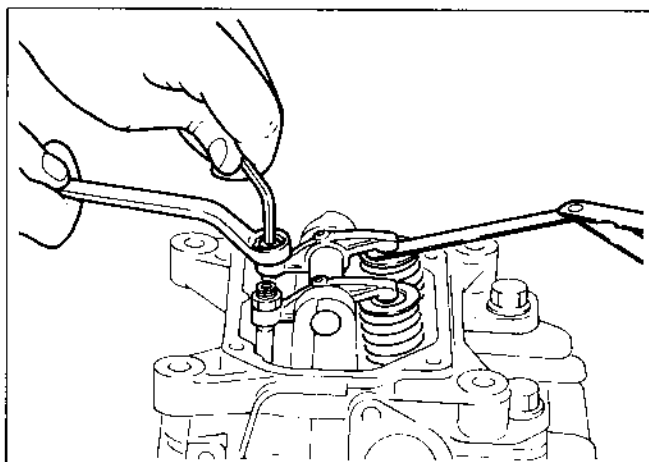

Fig. 54
- (2) Loosen lock nut on rocker arm and turn adjusting screw to adjust the clearance between rocker arm and valve stem end. (See Fig. 54.)